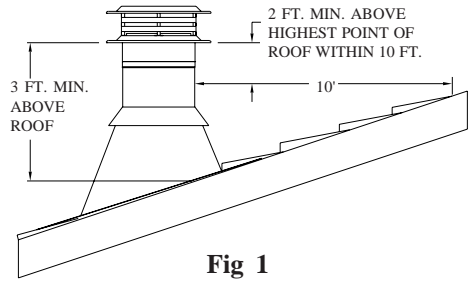

Fig 1
The National Fire Protection Association Standard #211 states: “Chimneys shall extend at least three feet above the highest point where it passes through the roof of a building, and at least two feet higher than any portion of a building within ten feet.” (Fig 1) 10" -16" diameter DuraTech Chimney may be installed up to 40 feet high when using a Support Box, and up to 30 feet high when using a Tee Support. If the chimney extends more than 4 feet above the roof, an Extended Roof Bracket must be used (see page 12). Due to the overlap of the joints, subtract 1-1/4 inches from each Chimney Section’s height to calculate installed height.
11. **Finish Top:** Apply a non-hardening waterproof sealant around the chimney at the point where the Storm Collar will meet the chimney just above the Flashing, and also along the vertical seam of the chimney pipe, where it is exposed to the weather. (Figures 12 and 13). Slide the Storm Collar down over the chimney to the top of the Flashing. Tighten the bolts of the Storm Collar and seal the Storm Collar against the sealant. After installing sufficient Chimney Sections to meet the height requirement as shown in Figure 1, attach the Chimney Cap onto the top of the chimney by setting the female end of the Cap onto the male end of the last chimney section. Secure the Cap by using (6) sheet metal screws provided. Do not push down from the top portion of the cap as this may damage the cap. Push from the lower section of the Cap if needed. The Chimney Cap can be removed for chimney cleaning as described in the Chimney Maintenance section of the instructions. Use an Extended Roof Bracket if the chimney extends more than 4 feet above the